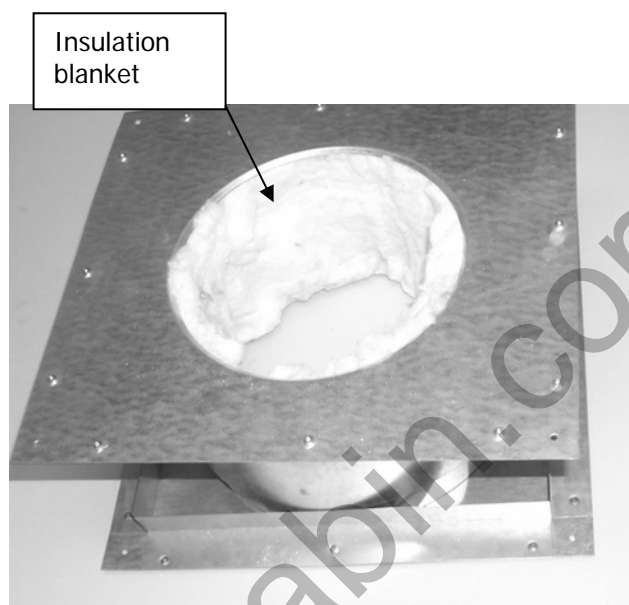

Figure 5: Wall thimble with insulation blanket
1. An insulation blanket is provided and must be added to any wall pass through (thimble) kit. This blanket is installed inside the wall pass through the thimble and wraps around the pipe that protrudes through the wall. (see figure 5) The blanket must extend the full-length, front to back, of the thimble.